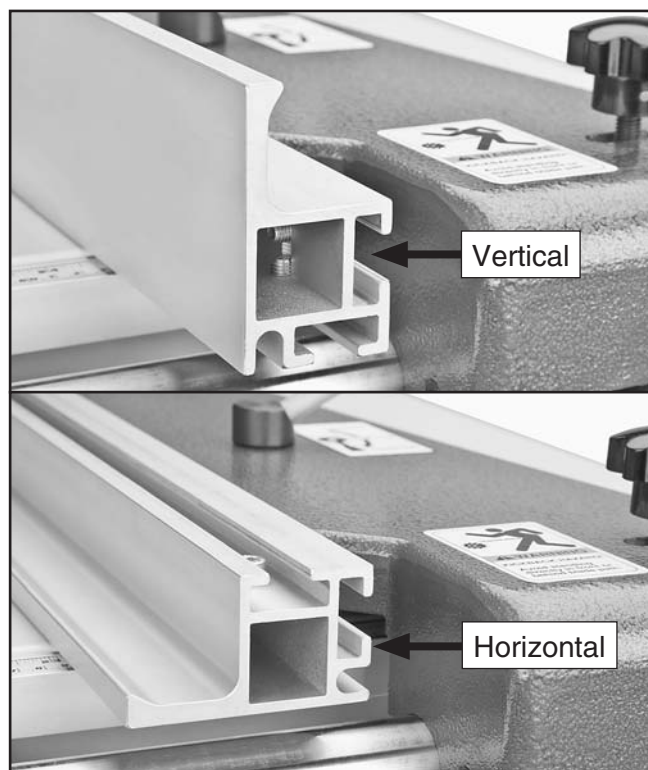

Figure 58. Rip fence positions.
2. Place the fence in the vertical position for larger workpieces, or in the horizontal position for angled cuts and for small workpieces (see **Figure 58**).